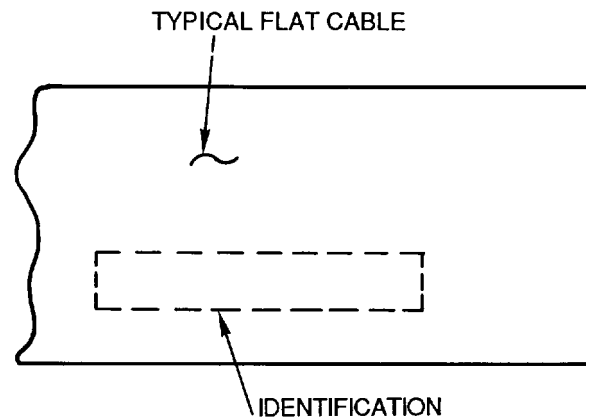

Figure 7. Marking Location MIL-DTL-49055 Cable
- (1) MIL-DTL-49055/1. This specification covers cables with wire size 26, 7/34 or 28, 7/36 stranding.
- (2) MIL-DTL-49055/11. This specification covers cables operating at 302°F (150°C).
- (3) MIL-DTL-49055/12. This specification covers cables operating at 392°F (200°C).
d. **Marking.** Unless otherwise specified cables are marked with a contrasting print along the reference edge at not greater than 12 inch increments. The marking consists of the military part number along with code, name, symbol, and date (Figure 7).
- (1) Example: M49055/01-01
- (2) M49055: Basic specification defining the cables performance characteristics.
- (3) /01: Detail specification defining the cable construction.
- (4) -01: Defines the number of conductors in the cable. See the specification for details.